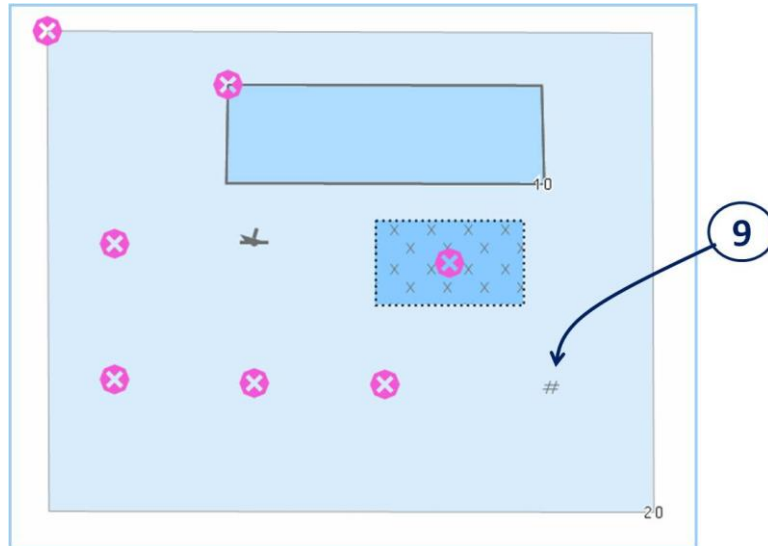

Figure 5 - Correct display of isolated dangers in OTHER mode with 10m safety contour/safety depth
6. The display should then look exactly like figure 5 and include the symbol for “*foul area of seabed safe for navigation but not for anchoring*” (9):